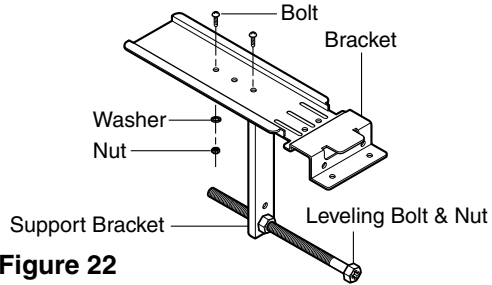

Figure 22
1. Loosely attach the Support Bracket to the bottom of of Bracket using Bolts, Washers, and Nuts. Attach the Leveling bolt and nut. (See Figure 22)